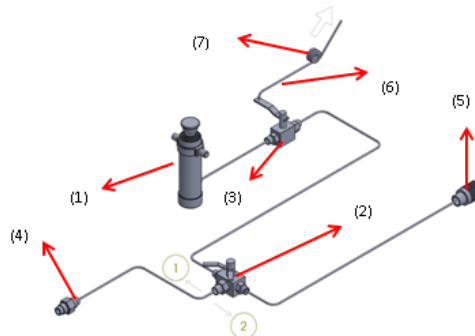

Figure 9: Hydraulic tipping system construction and diagram
- Double conduit pneumatic brake system Figure 9.